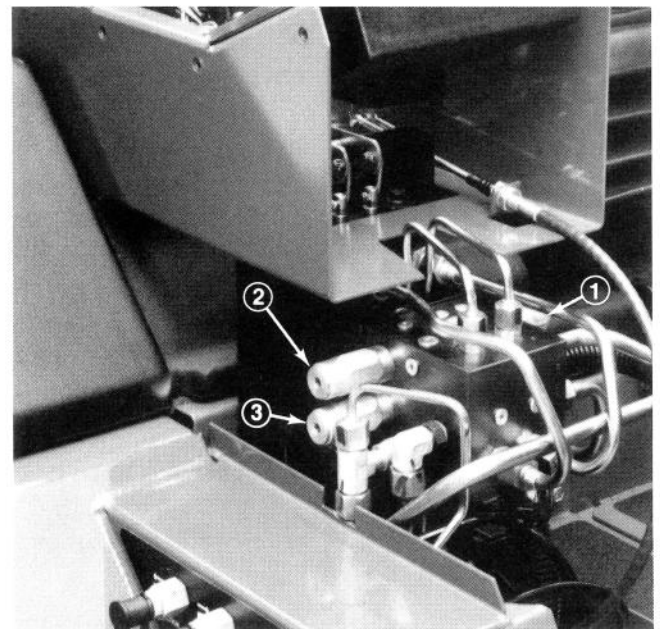

Figure 16
1. Remove control housing panel exposing counterbalance manifold assembly (Fig. 16)
2. Remove and discard shift cartridge valve from counterbalance manifold assembly (Fig. 16) and replace with new shift cartridge supplied in kit.
3. If pressure is too high or too low, remove cap and adjust the counterbalance relief valve screw until correct pressure is attained (Fig. 16).
4. If pressure is too high or too low, remove cap and adjust the "traction plus" relief valve screw until correct pressure is attained (Fig. 16).
4. If shift pressure is too high or too low, remove cap and adjust the shift cartridge screw until correct shift pressure is attained (Fig. 16).